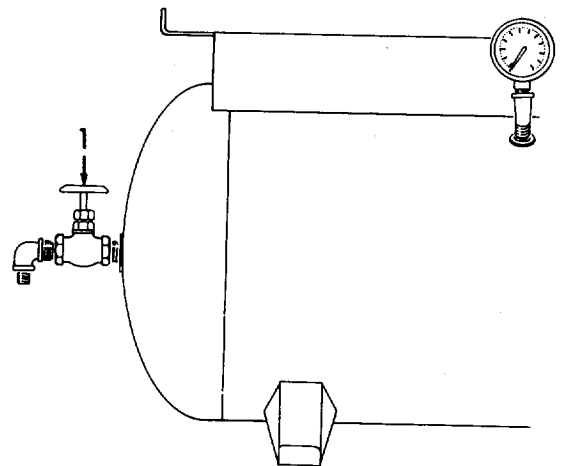

Figure 2-8. Air Shut-Off Valve Closing.
b. Refer to Figure 2-8. Close the air receiver tank air shut-off valve (1) by turning clockwise.